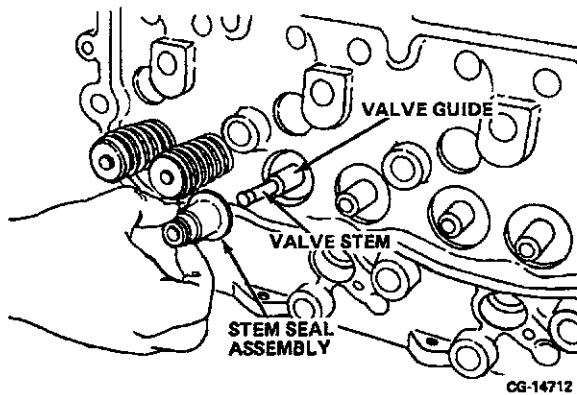

Figure 4.57. Install Stem Seal Assembly
4. Install the stem seal assembly over the valve and valve guide and against the cylinder head as shown in Figure 4.57.